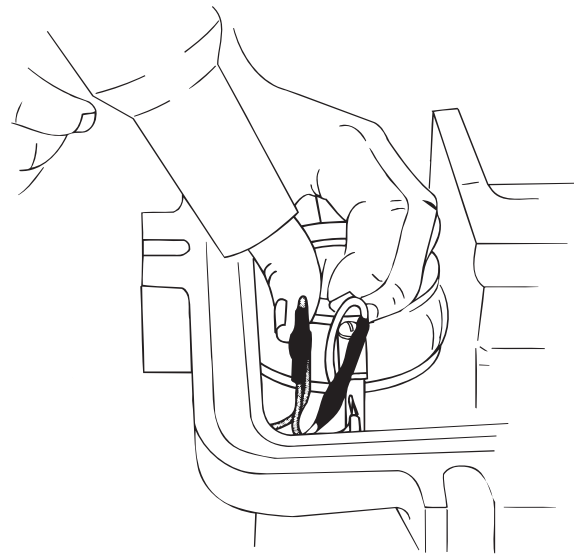

Figure 6. Securing shrink tubing
13. Slide shrink tubing over splice and apply heat to secure, see Figure 6.